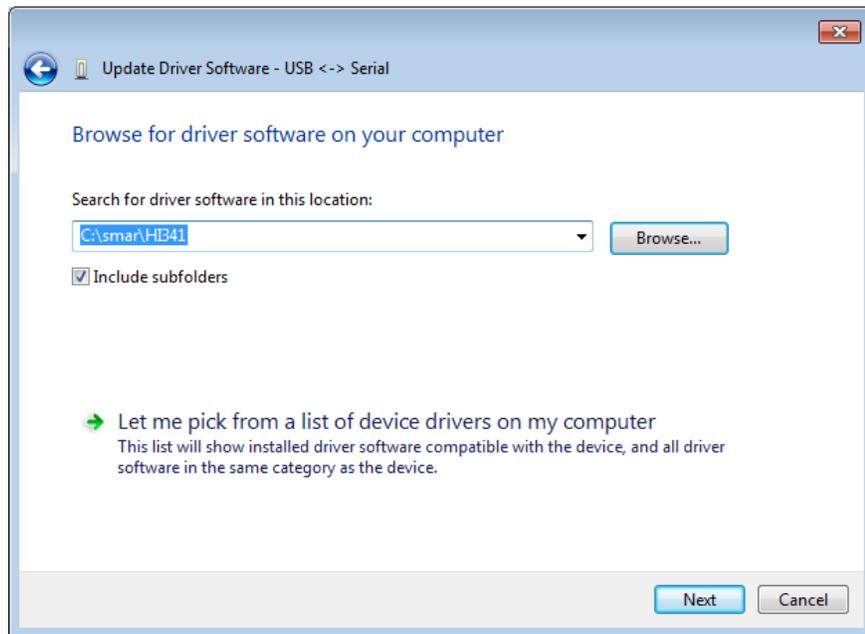

Figure 8 – Driver Installation Step-by-Step – Searching the driver
- 5th step: The next window will open. Search for the driver on your computer. Click **Next**. See Figure 8.